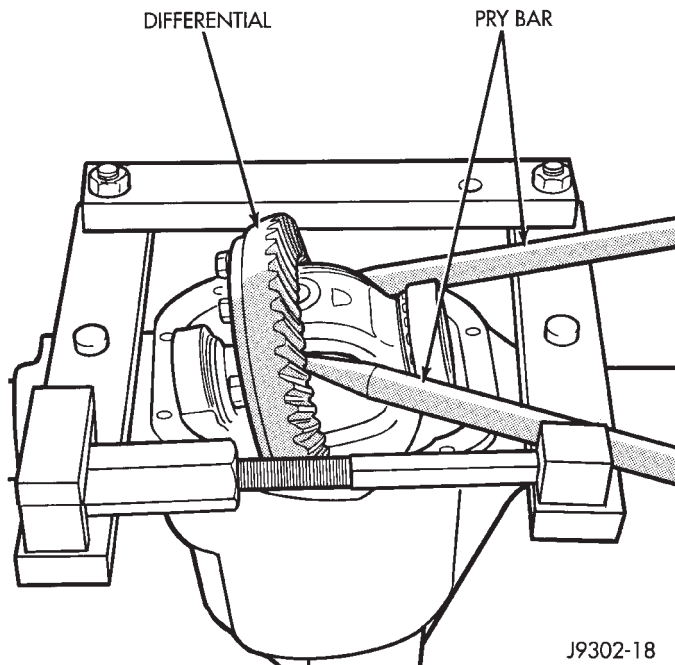

Fig. 29 Differential Removal
- (8) Remove the dial indicator.
- (9) Pry the differential case loose from the housing. To prevent damage, pivot on housing with the end of the pry bar against spreader (Fig. 29).
- (10) Remove the case from housing. Mark or tag bearing cups and outboard shim(s)/spacer(s) (selected thickness) to indicate which side they were removed from.